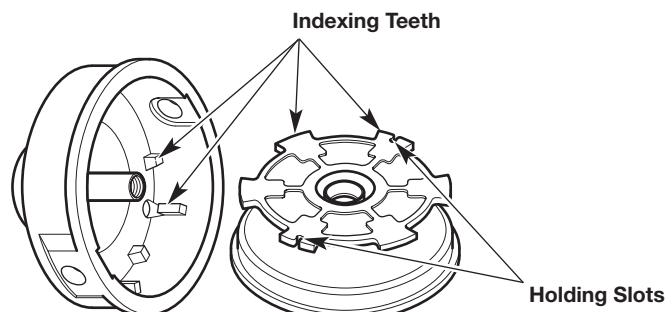

Fig. 29
7. Check the indexing teeth and holding slots for wear (Fig. 29). If necessary, remove burrs or replace the inner reel and outer spool.